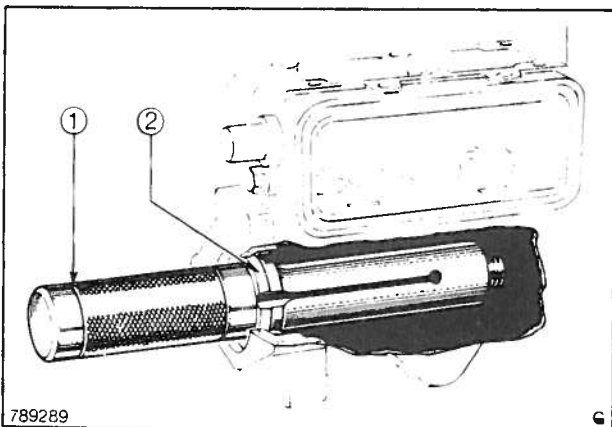

Fig. 17 Removing the camshaft bearing cups
25. The camshaft bearing cups can be removed by using Tool No. CT9050, Fig. 17, in the following manner. Assemble the collet of the tool from the inside of the bearing, collapsing the sprung arms of the tool so that the lip passes through and locates on the outside of the bearing cup. Screw in and fully tighten the expander from the outside of the housing and then drive the assembly into the housing.